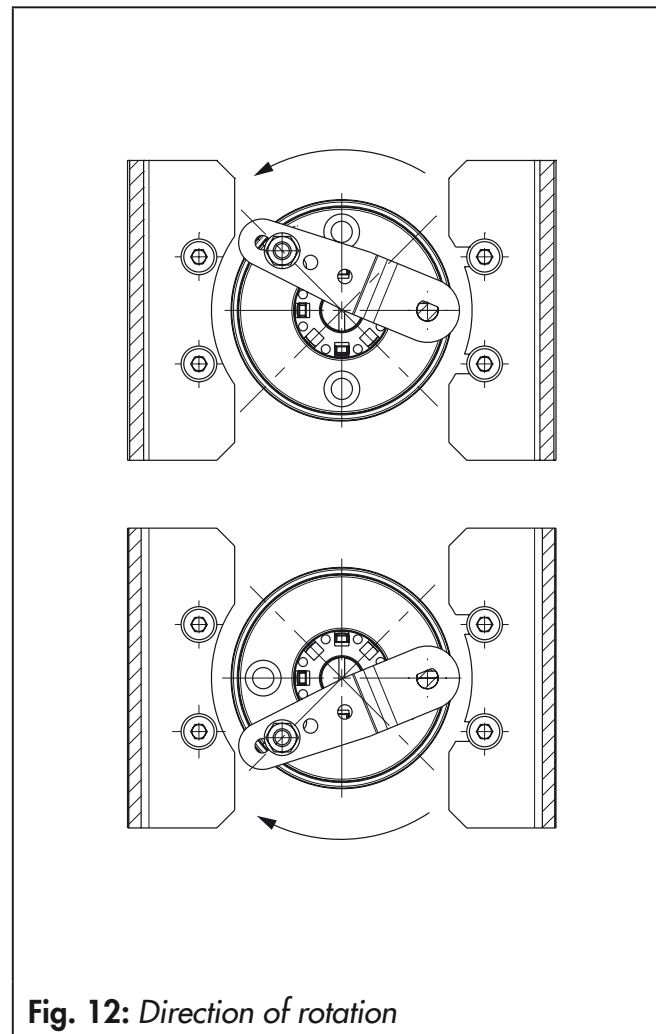

Fig. 12: Direction of rotation
- ➔ Before attaching the positioner onto the SAMSON Type 3278 Rotary Actuator (160 cm²) or VETEC Type S160 Actuator, first mount the adapter (13) to the free end of the shaft end using four screws (10, 1).
1. Place follower clamp (3) on the slotted actuator shaft or adapter (13).
2. Place coupling wheel (4) with flat side facing the actuator on the follower clamp (3). Refer to Fig. 12 to align slot so that it matches the direction of rotation when the valve is in its closed position.
3. Fasten the coupling wheel (4) and follower clamp (3) tightly onto the actuator shaft using screw (4.1) and disk spring (4.2).
4. Mount connecting plate (6) or pressure gauge bracket (7) with pressure gauges (8) on the positioner, making sure the two seals are seated properly.
5. Fasten the mounting bracket (10) to the actuator using four screws (10.1).
6. Unscrew the standard follower pin (2) from the positioner's M lever (1). Use the metal follower pin (Ø 5 mm) included in the mounting kit and screw tight into the hole for pin position 90°.